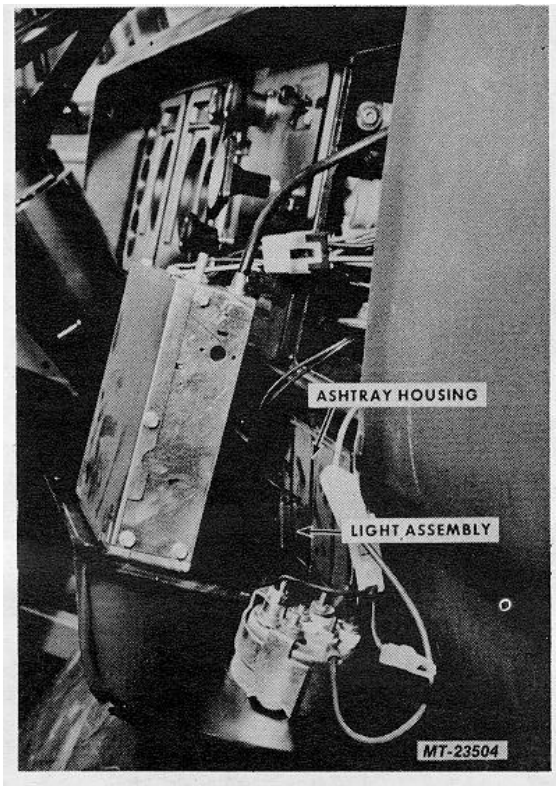

Fig. 18 Ashtray Light
3. Turn panel outward to gain access to ashtray light (Figure 18).